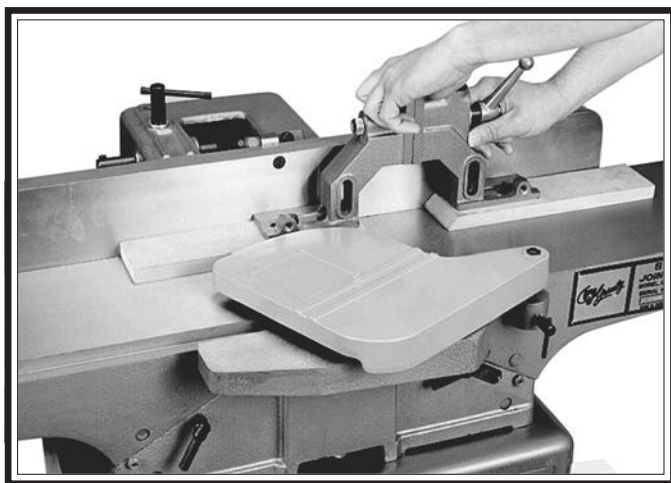

Figure 93. Example of resurfacing fences on a jointer.
- 6.** Remove both fences and resurface as one unit. You can perform this operation on a jointer as shown in **Figure 93**.